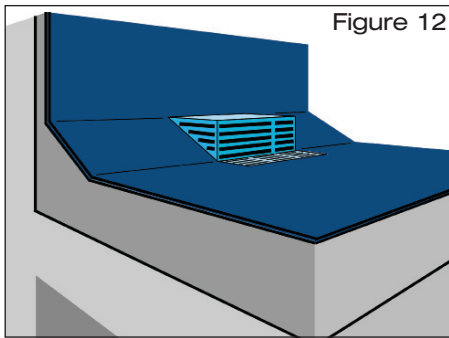

Figure 12
- 2.6 Fasten the strainer using the fastening materials provided (fig. 12).